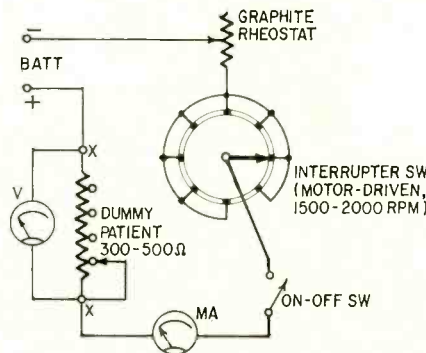

Fig. 1—Early electrical anesthesia apparatus used by Robinovitch in 1910. Electrodes are connected at points marked X, after adjustment.
The first human subject was a scientist named Leduc who subjected himself to *electric sleep*, using 35 volts at 4 ma (Fig. 1). The current was left on for 1 hour, then turned off. The patient awoke normally a short while later. Electrodes were placed on the forehead (-) and the palm of the right hand (+).
The apparatus in Fig. 1 was used both for electric sleep and anesthesia. The dummy patient (resistor) is connected in the circuit, and the proper resistance selected with the slider. The main on-off switch is closed and the interrupter switch is stopped on a contact, allowing current to flow through the circuit. The rheostat is now adjusted to give the correct voltage (E) and current (I_T). Next, the motor which rotates the interrupter switch is started. Arrangement of the contacts on this switch allows the duty cycle (on-off ratio) to be changed. For best results, a ratio of $I_1 = I_T/10$ is used, in which I_1 is the current with the interrupter operating and I_T is the steady-state current (no interruption).